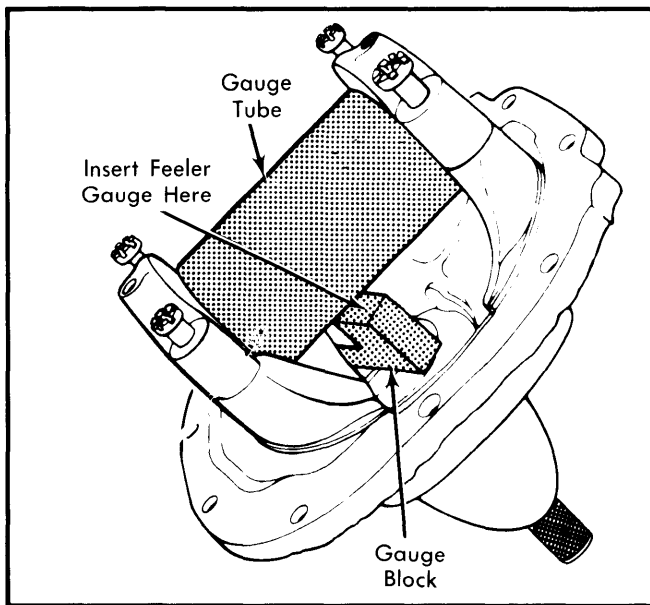

Fig. 3 Measuring Pinion Depth With Gauge (T79P-4020-A)
5) Install pinion bearing retainer and gauge assembly into carrier (without a pinion shim). Tighten retainer assembly mounting bolts to 30-45 ft. lbs. Rotate gauge block so it rests against pilot boss. Install gauge tube in differential bearing bore. Install and tighten bearing cap and bolts. See Fig. 3.
6) Using a feeler gauge, select the thickest feeler blade that will enter between gauge block and gauge tube. See Fig. 3. Insert feeler blade directly along top of gauge block to insure a correct reading. The fit should be a slight drag-type. Select correct shim to be inserted by comparing feeler gauge thickness with shim requirement in Shim Chart. Remove assembly and install drive pinion and ring gear.